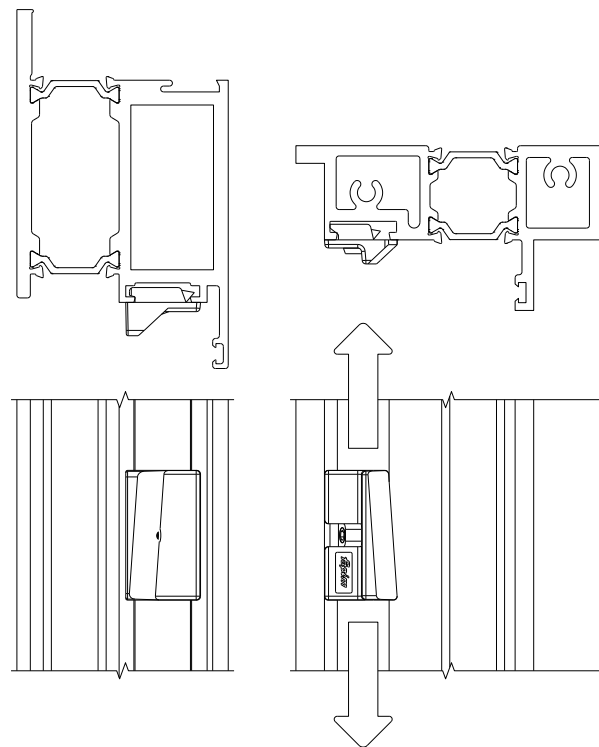

Figure 34
- If the door leaf does not close correctly, adjust the location of the frame block(s) and the re-tighten the set screw. (Figure 34)